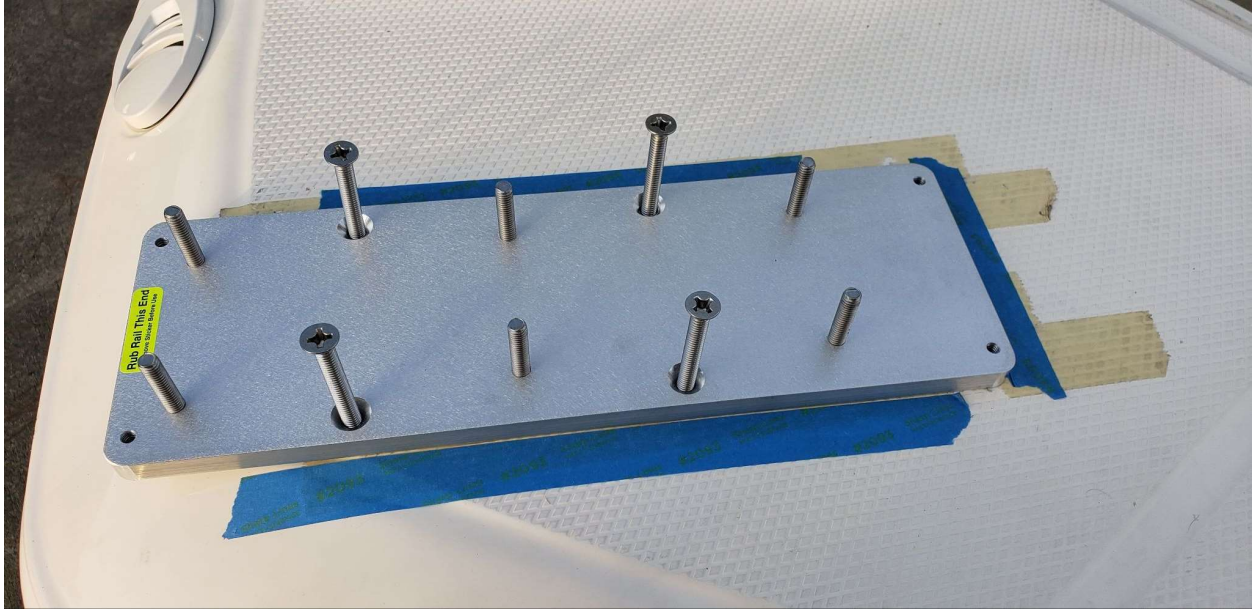

Figure 11.
- Figure 11 shows the locations in the bottom plate of the carriage assembly that 5/16-18 fasteners must be used to hold it to the deck of the boat.